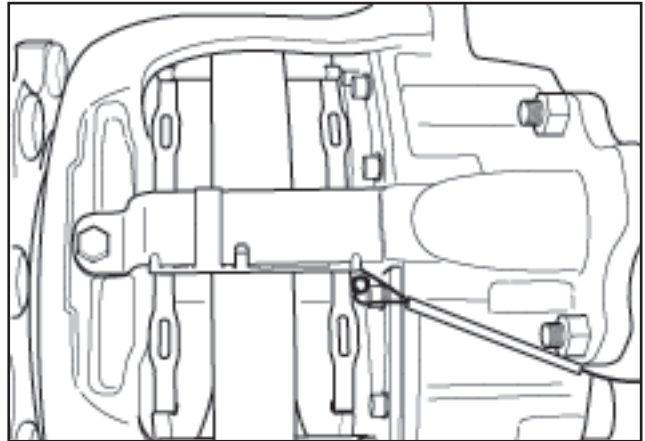

Fig 2.14
- PWWI (Pad Wear Warning Indicator) which is fitted to the pad/s (Fig 2.14 shows a typical arrangement).